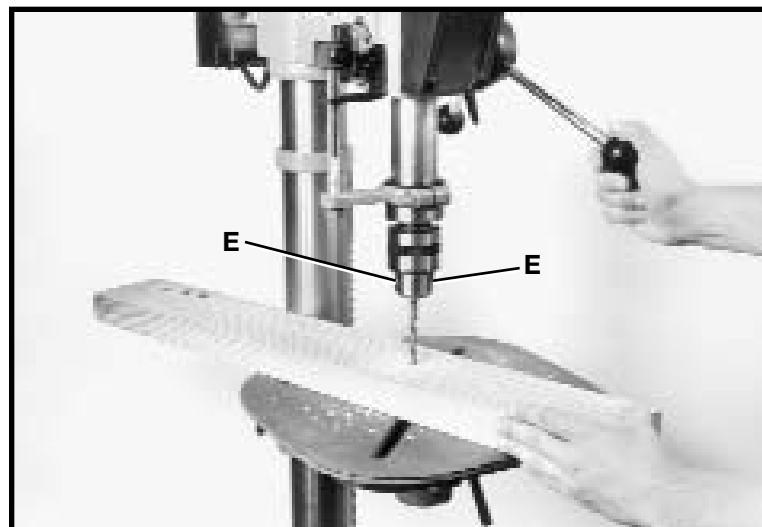

Fig. 30
The following directions will give the inexperienced operator a start on common drill press operations. Use scrap material for practice to get a feel of the machine before attempting regular work. **IMPORTANT:** After installing a drill bit into the chuck, always tighten the jaws of the chuck using the key supplied in all three locations of the chuck, two of which are shown at (E) Fig. 30.
**IMPORTANT:** When the workpiece is long enough, it should always be positioned on the table with one end against the column, as shown in Fig. 30. This prevents the workpiece from rotating with the drill bit or cutting tool, causing damage to the workpiece or personal injury to the operator. If it is not possible to support the workpiece against the column, the workpiece should always be fastened to the table using clamps or a vise.